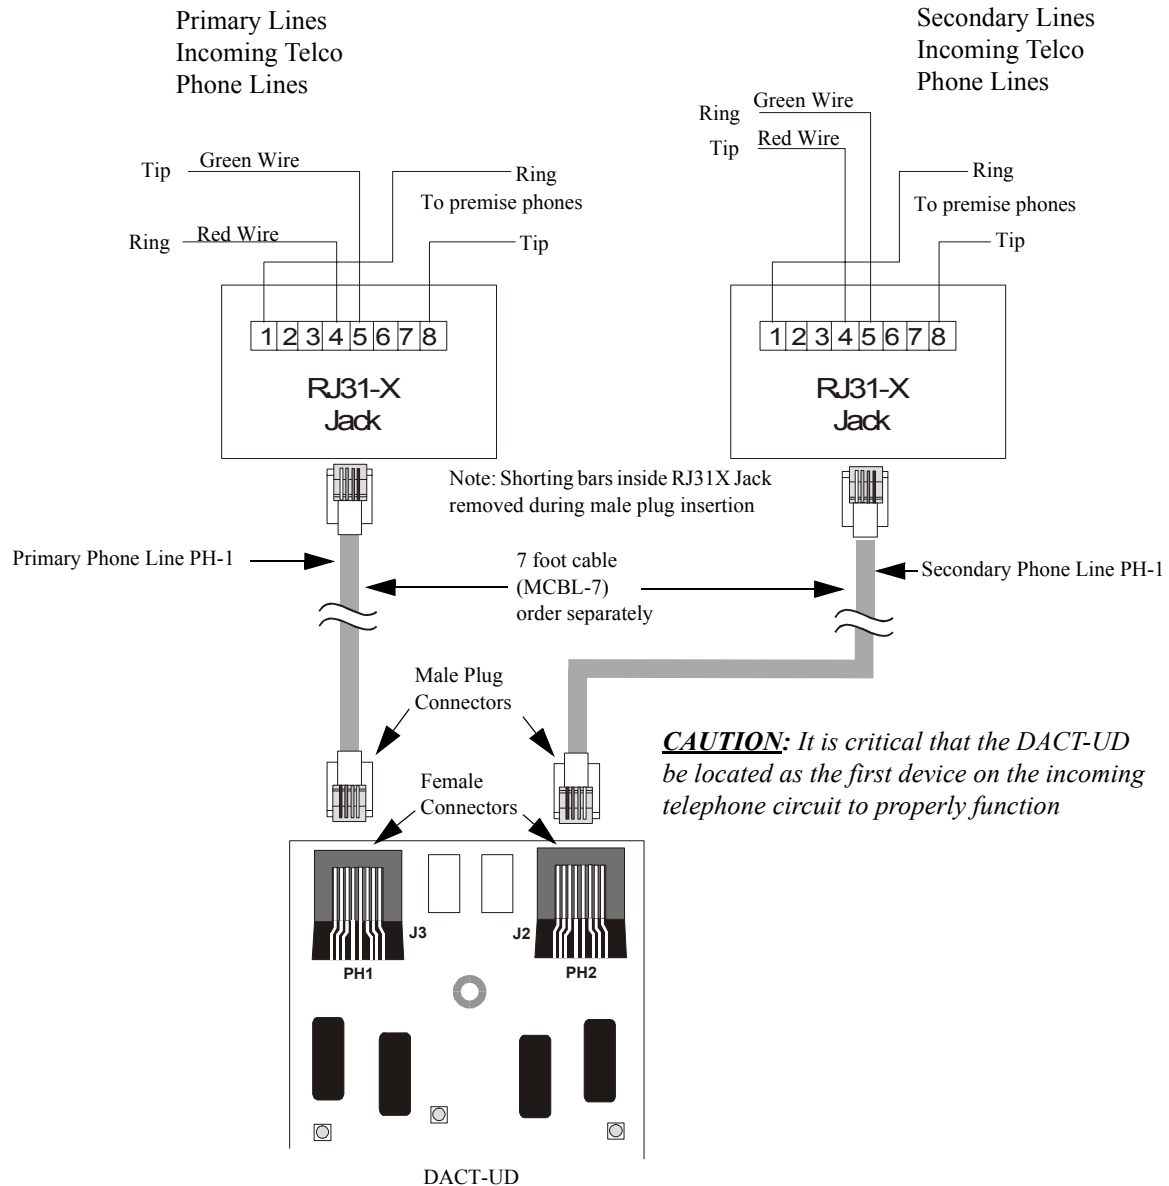

Figure 2.14 Wiring Phone Jacks
8. Refer to the Telephone Requirement and Warnings section of the DACT-UD Installation and Programming Manual Document #51889, before proceeding with this step. Connect the premises primary and secondary phone lines to the DACT as illustrated in Figure 2.14 and test the system for correct operation